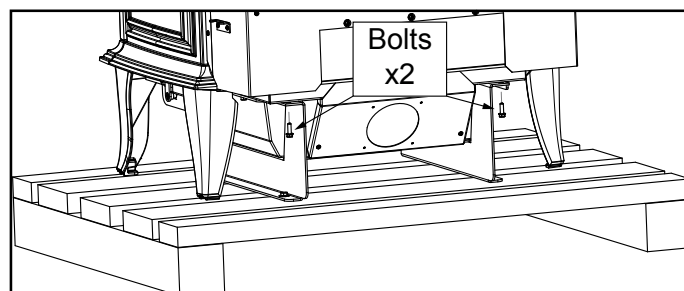

Figure 6.2
5. Using a 3/8 socket or open end wrench, remove two bolts on back side as shown (**Figure 6.2**).